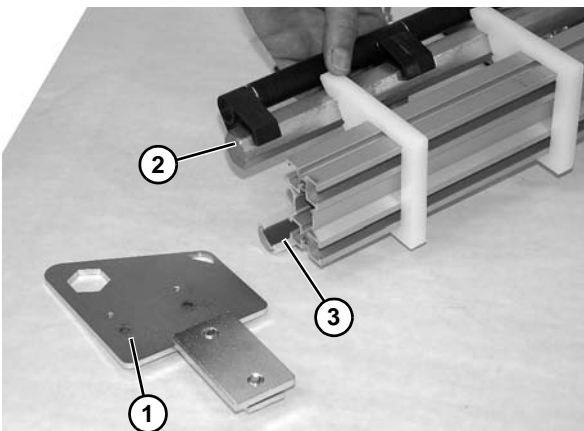

Figure 94
6. Remove backing plate assembly (**Figure 94, item 1**) from center spindle assembly (**Figure 94, item 2**) and half round assembly (**Figure 94, item 3**).